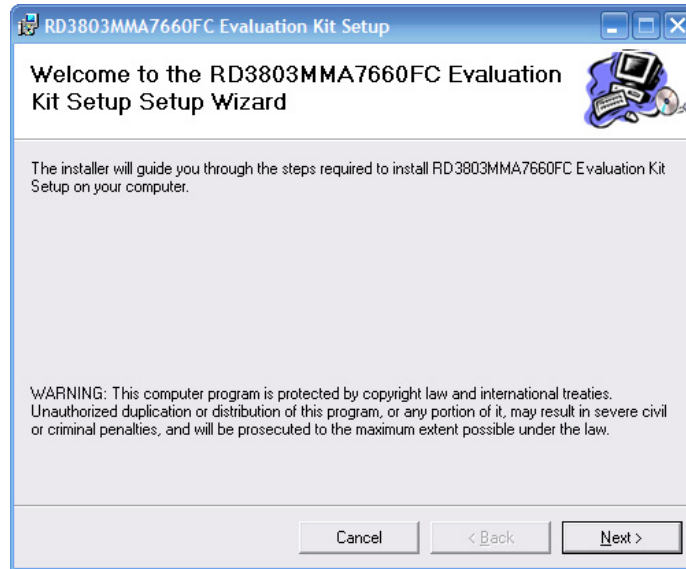

Figure 4. Step 1 in the RD3803MMA7660FC Setup Wizard
4. Navigate to the file location and open RD3803MMA7660FC Evaluation Kit GUI Installer. Run Setup.exe. (Figure 4)